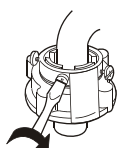

Figure 4
3. Dismantle the drain outlet protecting cover at the other side, (the way is the same as the drain bushing), then install the drain bushing, as indicated in Figure 4.
3. Fasten the four screws evenly. See to Figure 4.